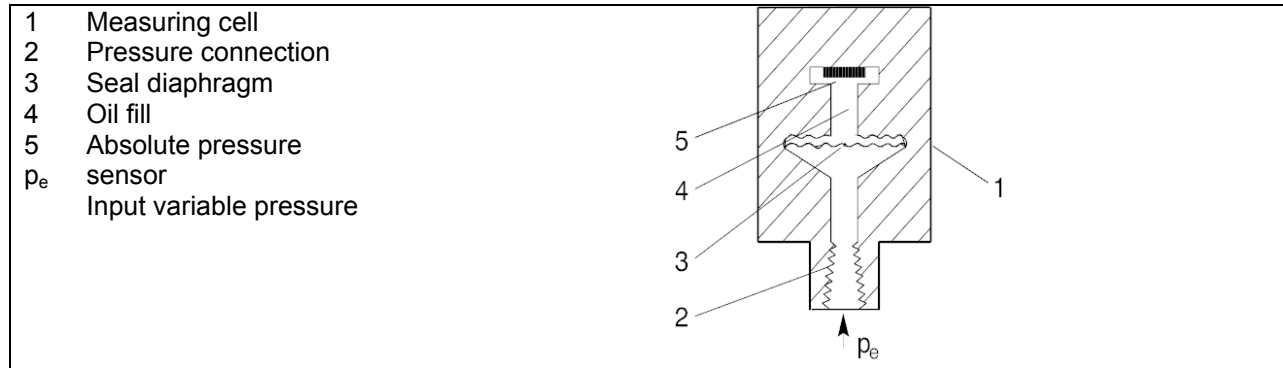

FIGURE 8-6 Absolute Pressure Measuring Cell, Gauge Construction
Pressure p_e is applied via the seal diaphragm (3) and full fluid (4) to the absolute pressure sensor (5). See Figure 8-6. This flexes the measuring diaphragm which has four piezo-resistors in a bridge circuit. Bridge resistance will vary with the applied pressure to generate a bridge output voltage that is proportional to the input pressure.